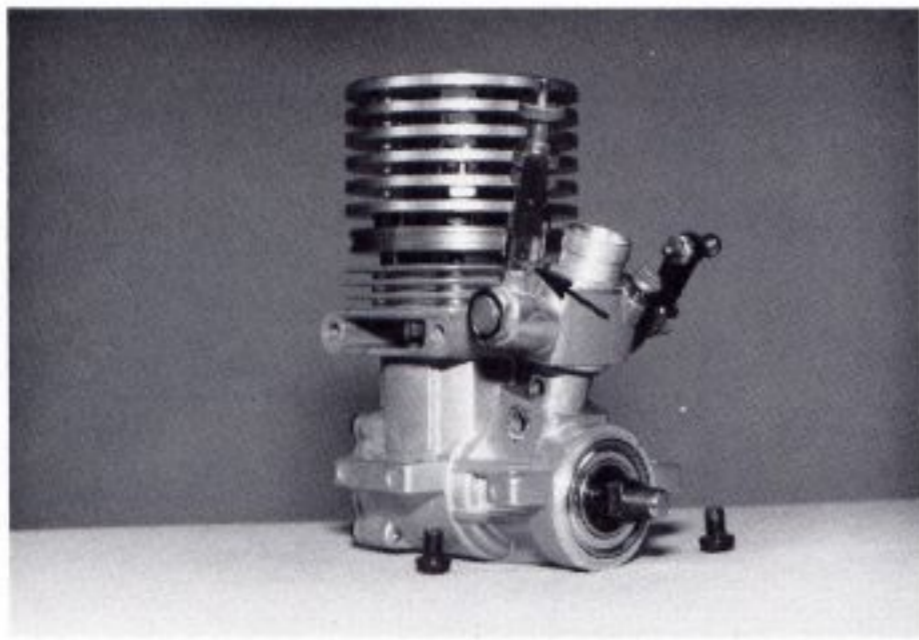
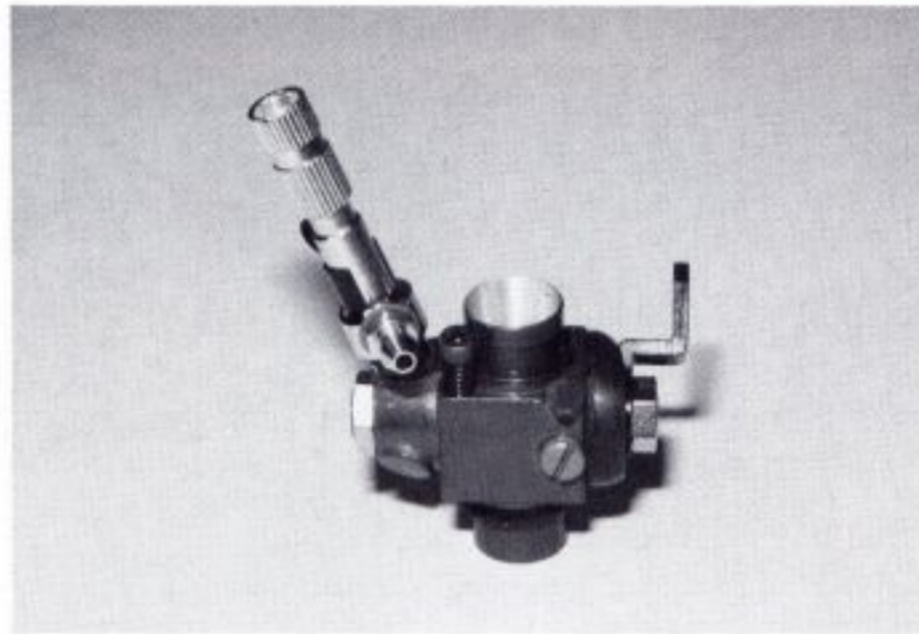

Fig. 250
Fig. 251
□ **Figs. 250 & 251** We now need to remove the carburetor from the engine so we can turn the needle valve assembly in the correct direction and install the throttle pivot arm ball end. On the OS Max and the Yokomo engines the carburetors are fastened to the case with two screws; remove both screws. On the Dynamite engine there is a clamp bolt and nut behind the carburetor (on the exhaust side), loosen this nut. Now you can slide the carburetor out of the engine case.
We are now going to have to loosen the needle valve locknut at the base of the needle valve assembly (see arrow, fig. 250). The locknut at the base of the needle valve on the OS Max and Yokomo carburetors is very difficult to get to. Your Associated shock/turnbuckle wrench will work for this nut; it's thin enough to fit under the needle valve. Now we will need to turn the valve assembly until the fuel line fitting is facing the direction shown in fig. 251. Fig. 250 shows the carburetor as it would be mounted on the engine when installed. You will be threading the valve assembly in or out to get the fitting to face the correct way. After you have the fitting pointing correctly, go ahead and retighten the valve assembly locking nut.